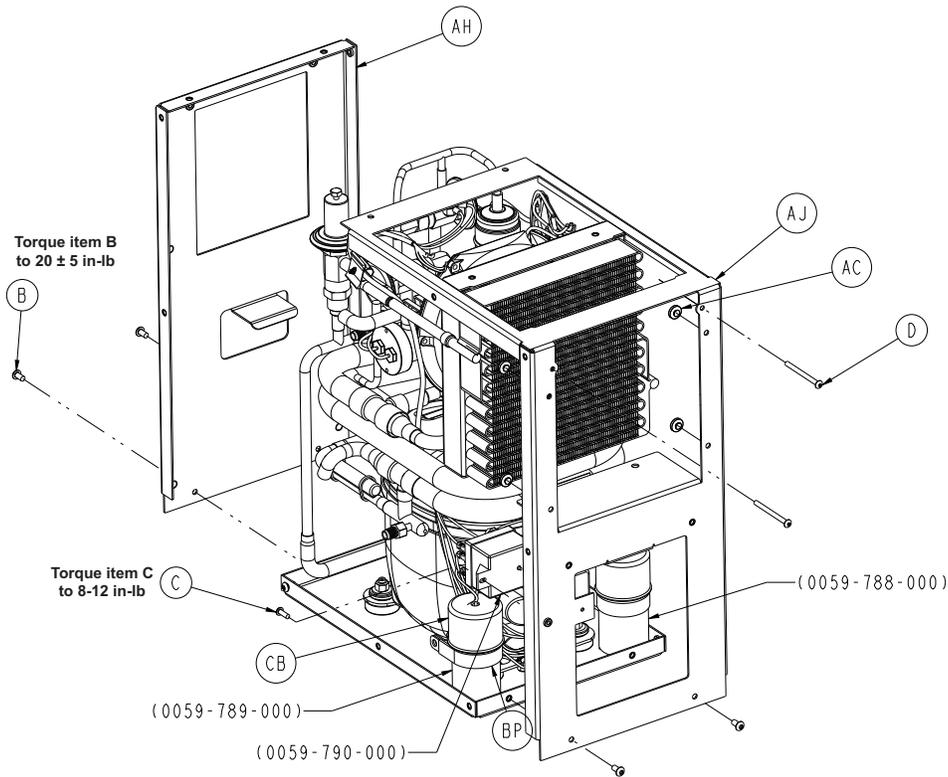

Figure 27 – Fan assembly
14. Using a 3/32" hex wrench, remove the two screws (D) that secure the fan assembly to the frame (Figure 27). Save the screws.